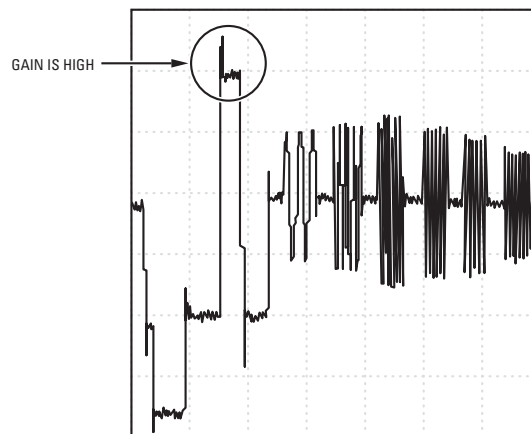

Figure 13. High Gain Signal
6. If the video signal is out of range, increase the gain by resetting the position of the DIP switches (refer to Table E on page 14). The optimal DIP switch position for black-white video is medium gain (300 meters). A high gain setting will overamplify the signal (refer to Figure 13).